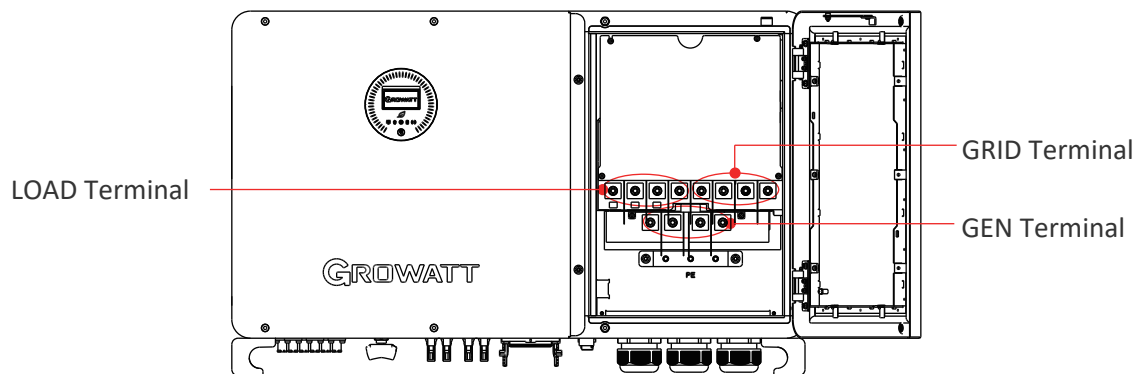

Fig 6.11 AC terminal wiring position and diagram
3. Connect the main power cables according to the label. Fig 6.11 shows the position of the label and the AC terminals.